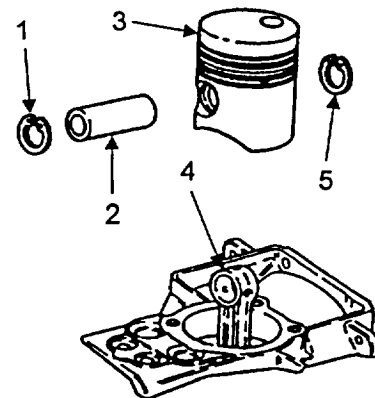

FIGURE 5-45. ASSEMBLE PISTON
d. Install new retaining ring (Figure 5-45, Item 1) in lip groove of piston (3) piston pin bore.
e. Insert connecting rod (Figure 5-45, Item 4) into bottom of piston (3). Make sure that opening of combustion chamber is on the flywheel side.
f. Insert wrist pin (2) into piston (3) wrist pin bore and through rod bushing of connecting rod (4) Push in wrist pin until it contacts installed retaining ring (1) and stops. Install retaining ring (5).